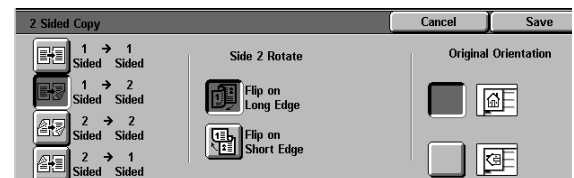

Figure 4: 1 to 2 Sided Copying option
- **1 to 2 Sided** button for 2-sided copies from 1-sided input, as illustrated in Figure 4.